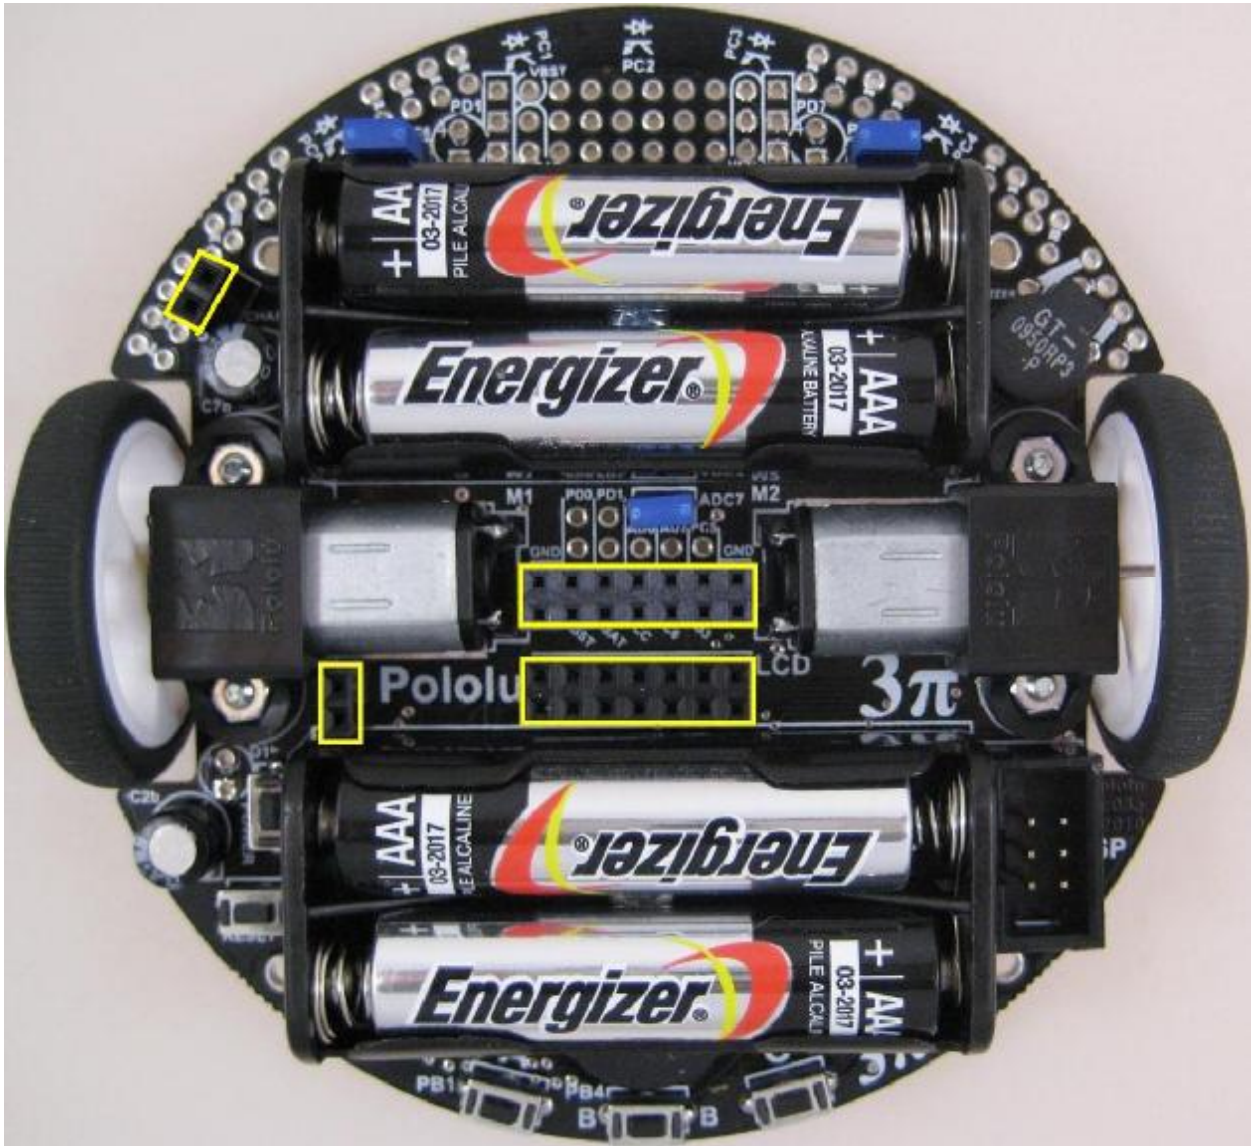

Figure 3
- Insert the Zigbee wireless expansion board BRD-EXP-PLLU3PI-ZB on to the robot's female expansion connectors (in yellow rectangles) in Figure 3 below: